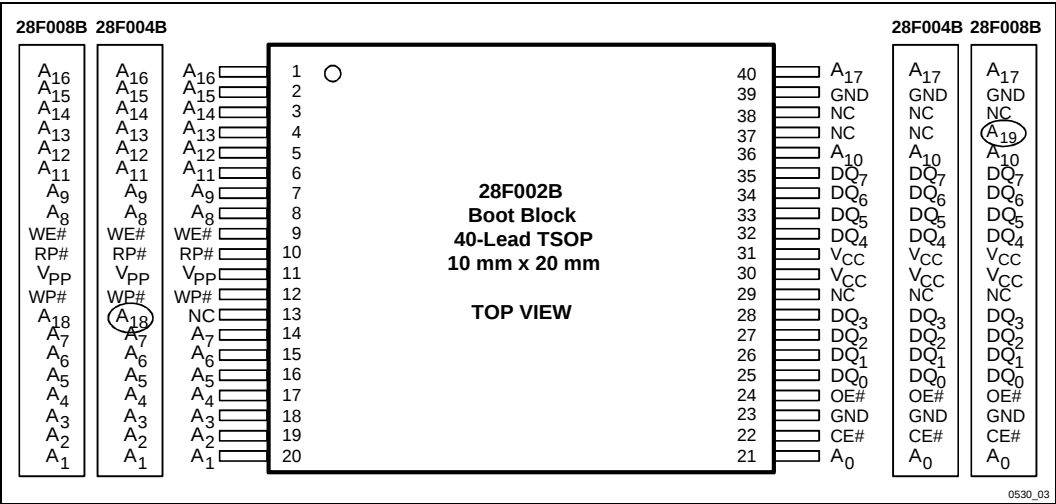
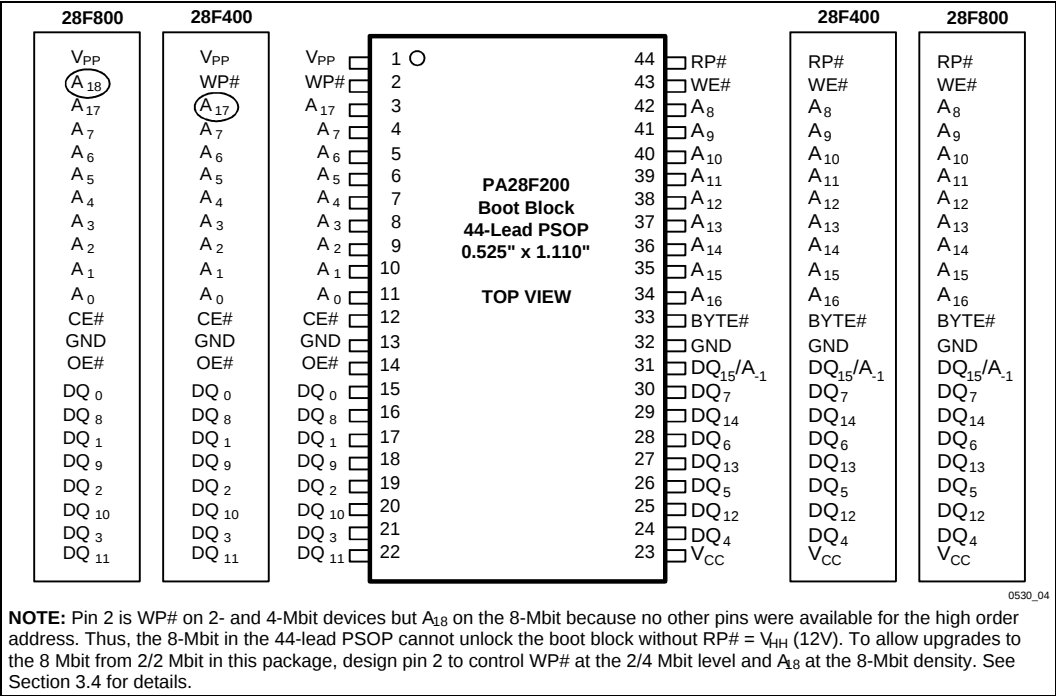
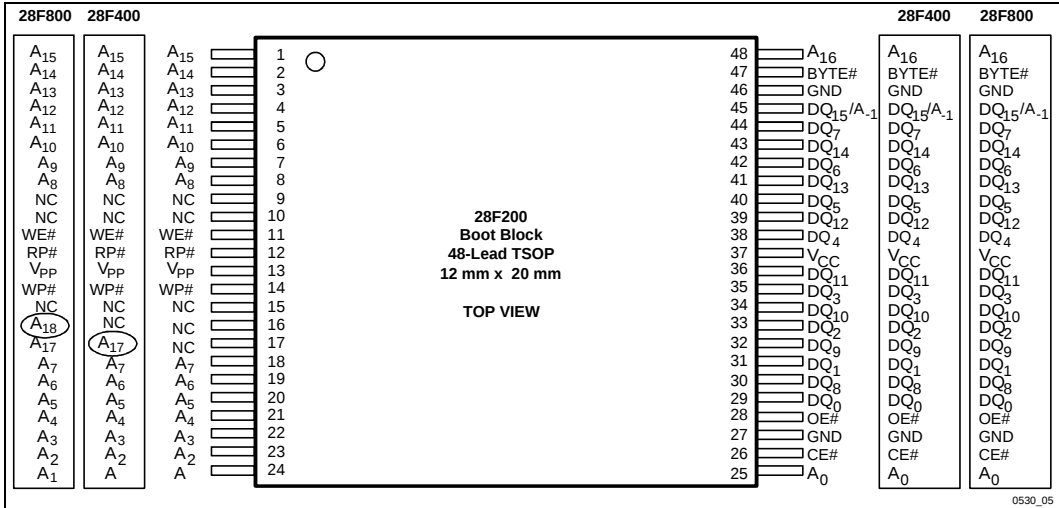
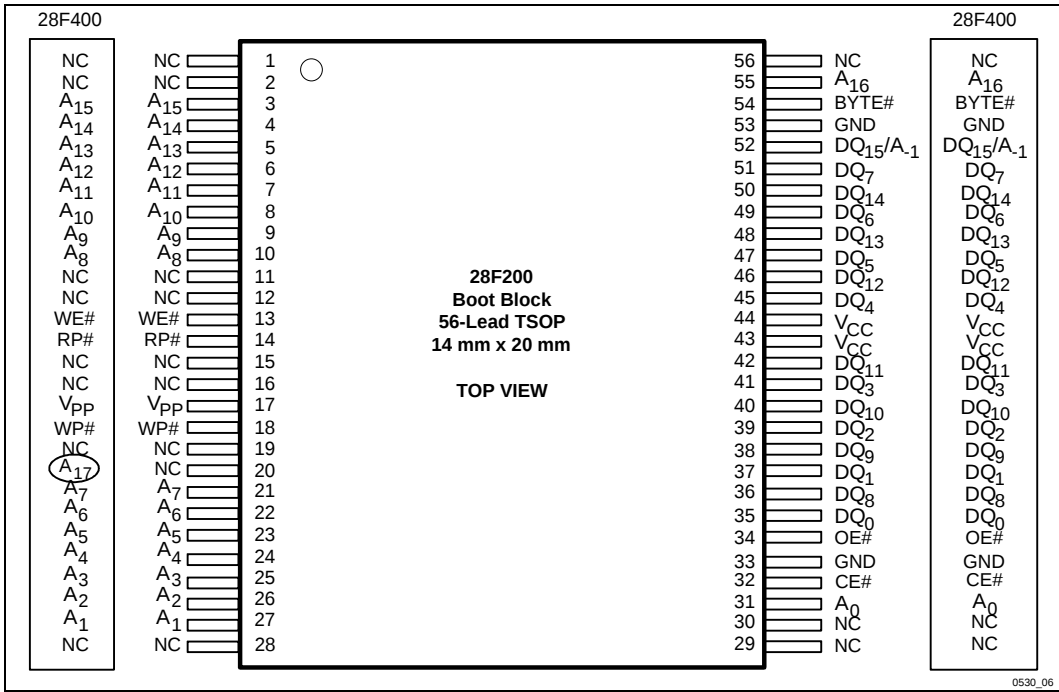

Figure 3. The 40-Lead TSOP Offers the Smallest Form Factor for Space-Constrained Applications
Figure 4. The 44-Lead PSOP Offers a Convenient Upgrade from JEDEC ROM Standards
Figure 5. The 48-Lead TSOP Offers the Smallest Form Factor for x16 Operation
Figure 6. The 56-Lead TSOP Offers Compatibility between 2 and 4 Mbits
-002	Status changed from Product Preview to Preliminary 28F200CV/CE/BE references and information added throughout. 2.7V CE/BE specs added throughout. The following sections have been changed or rewritten: 1.1, 3.0, 3.2.1, 3.2.2, 3.3.1, 3.3.1.1, 3.3.2, 3.3.2.1, 3.3.3, 3.3.4, 3.6.2. Note 2 added to Figure 3 to clarify 28F008B pinout vs. 28F008SA. Sentence about program and erase WSM timeout deleted from Section 3.3.3, 3.3.4. Erroneous arrows leading out of error states deleted from flowcharts in Figs. 9, 10. Sections 5.1, 6.1 changed to "Applying V_{CC} Voltages." These sections completely changed to clarify V_{CC} ramp requirements. I_{PPD} 3.3V Commercial spec changed from 10 to 5 μA. Capacitance tables added after commercial and extended DC Characteristics tables. Test and slew rate notes added to Figs. 12, 13, 19, 20, 21. Test configuration drawings (Fig. 14, 22) consolidated into one, with component values in table. (Component values also rounded off). t_{ELFL}, t_{ELFH}, t_{AVFL} changed from 7 to 5 ns for 3.3V BV-60 commercial and 3.3V TBV-80 extended, 10 to 5 ns for 3.3V BV-80 and BV-120 commercial. t_{WHAX} and t_{EHAX} changed from 10 to 0 ns. t_{PHWL} changed from 1000 ns to 800 ns for 3.3V BV-80, BV-120 commercial. t_{PHEL} changed from 1000 ns to 800 ns for 3.3V BV-60, BV-80, and BV-120 commercial.
The 28F200 products are available in a ROM/EPROM-compatible pinout and housed in the 44-lead PSOP (Plastic Small Outline) package, the 48-lead TSOP (Thin Small Outline, 1.2 mm thick) package and the 56-lead TSOP as shown in Figures 4, 5 and 6, respectively. The 28F002 products are available in the 40-lead TSOP package as shown in Figure 3.
Intel's SmartVoltage Boot Block architecture provides upgrade paths in every package pinout to the 4 or 8-Mbit density. The 28F002B 40-lead TSOP pinout for space-constrained designs is shown in Figure 3. The 28F200 44-lead PSOP pinout follows the industry-standard ROM/EPROM pinout, as shown in Figure 4. For designs that require x16 operation but have space concerns, refer to the 48-lead pinout in Figure 5. Furthermore, the 28F200 56-lead TSOP pinout shown in Figure 6 provides compatibility with BX/BL family product packages.
This product family features an asymmetrically-blocked architecture providing system memory integration. Each erase block can be erased independently of the others up to 100,000 times for commercial temperature or up to 10,000 times for extended temperature. The block sizes have been chosen to optimize their functionality for common applications of nonvolatile storage. The combination of block sizes in the boot block architecture allow the integration of several memories into a single chip. For the address locations of the blocks, see the memory maps in Figures 4 and 5.